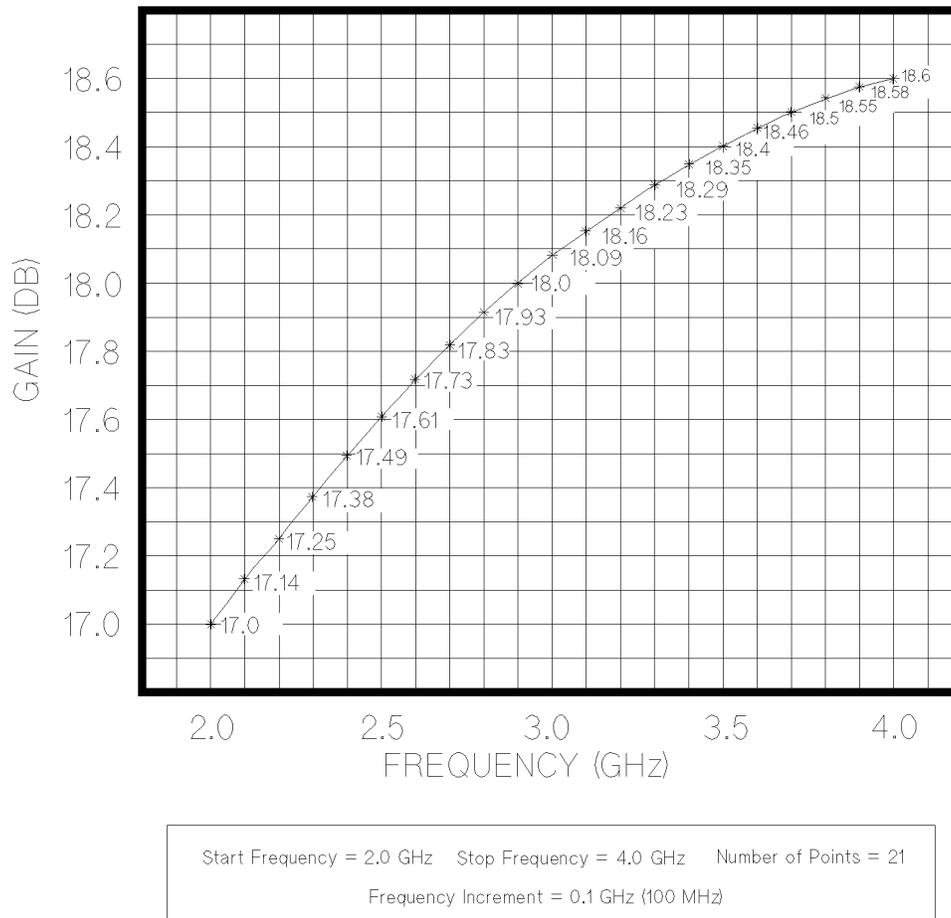

Figure 5-15. Typical Standard Gain Antenna Performance Graph
Next, you must determine the gain values at each frequency increment. Figure 5-15 shows a typical graph-style data sheet for a standard gain antenna.
1. Choose the start and stop frequencies. Examples shown in Figure 5-15 are 2 and 4 GHz, respectively.
3. On the graph for *your* standard antenna, determine the gain at each frequency increment. Figure 5-15 shows example gain values for 21 frequencies spaced 100 MHz apart.
The ASCII file must follow the CITIfile format supported by the HP 8530A. Figure 5-16 shows an example file for the data in Figure 5-15. At first the file looks complicated. However only the items pointed out in Figure 5-16 are variable. To save time, start by editing an existing calibration definition file. One is supplied on the Antenna RCS/Cal Disc, which was supplied with the receiver. The file name of the file is AC_NAR1.